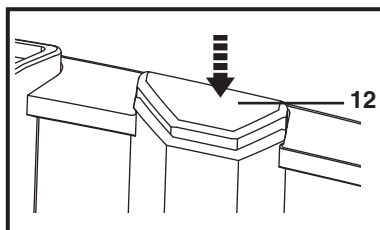

Fig. 6
2. Press the on/off switch (12) again to switch the product off (Fig. 6).